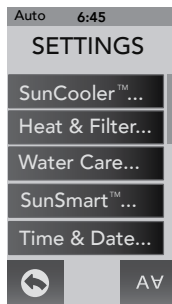
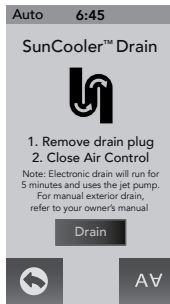
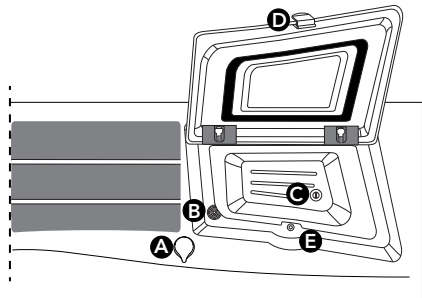
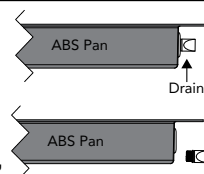

Figure 12.1a
Figure 12.1b
Figure 12.1c
Figure 12.1f
From the Settings Menu (Figure 12.1a) tap **SunCooler™...** to enter the SunCooler Drain Menu, Figure 12.1b. When water accumulates within the SunCooler bins, draining of the water can be done in one of two ways, internally into the hot tub (Figure 12.1d) or externally out of the hot tub (Figure 12.1f). There are also SunCooler perimeter drains, Figure 12.1c. When water accumulates, in the perimeter, draining is continuous any time pump 1 is running.
1. Tap **SunCooler** to enter the menu, Figure 12.1a.
4. Locate the air control that works with the bin drain, Figure 12.1c, and close it by turning it counterclockwise.
2. Locate the drain plug on the ABS pan of the hot tub, Figure 12.1f.
3. Turn the thumb screw counterclockwise to remove, Figure 12.1f. Place the screw in a safe location to prevent from losing it.